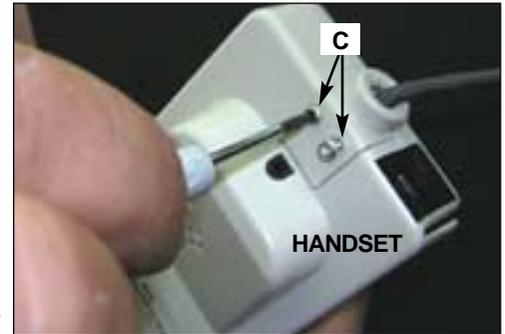

FIG. 305C:
- (4) Remove handset as follows: remove two screws (C) (see fig. 305C) that attach cord reel cable to the handset. Unplug its connector.